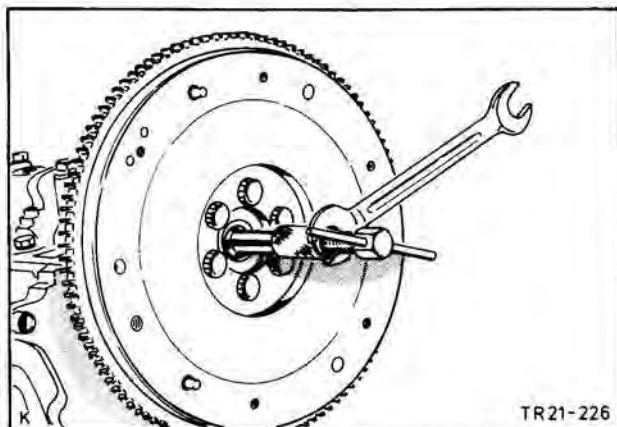

Fig. 41. Withdraw crankshaft needle bearing using Special Tool 21-036
25. Remove input shaft spigot bearing from crankshaft using Special Tool 21-036, Fig. 41.